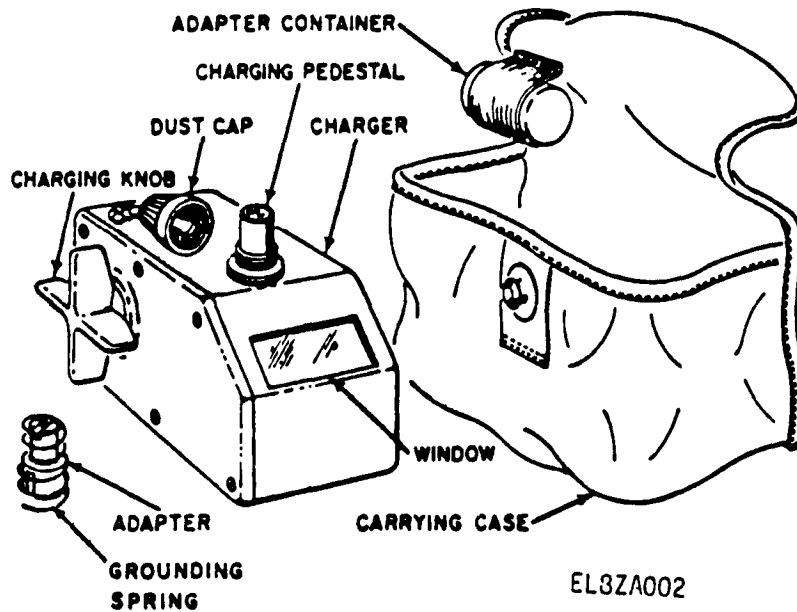

Figure 2. Charger, Radiac Detector PP-1578A/PD.
PP-1578A/PD (fig. 2):
*b. PP-1578A/PD* (fig. 2). The PP-1578A/PD is similar to the PP-1578/PD (*a* above) but has some physical differences that facilitate operation. A charging pedestal is provided instead of a charging socket and no chuck mechanism is used. The charging knob is located on the side of the case. A rectangular window is located in the front end of the case and a prismatic lens system directs light to the bottom of the charging pedestal. The adapter, when not in use, is stored in a separate, cylindrical container. An elastic strap secures the adapter container in the carrying case.
*o.* If a captive jump (*m*(4) above) occurs, proceed as follows:
(1) Install the dosimeter in the charger (*h* and *i* above) and turn the charging knob clockwise until the indicating fiber is on the downscale side of 0 on the reticle an amount to the captive jump.
(2) Remove the dosimeter from the charger and observe the reading.
(3) Repeat this procedure ((1) and (2) above) until a 0 reading is obtained after the dosimeter has been removed from the charger. A 0 reading on the dosimeter must be obtained after the dosimeter has been charged and checked or the dosimeter is not charged properly.
**1-14. Operation of PP-1578A/PD (fig. 2).**